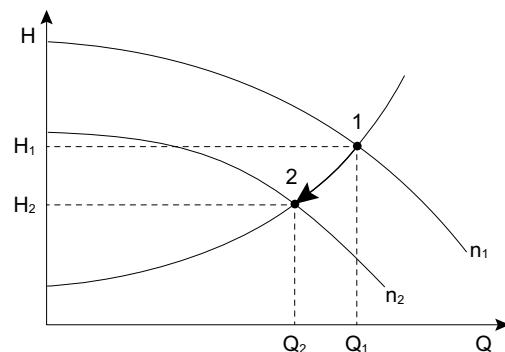

Fig. 7.3.2f Controlling pump speed
The connection between Capacity (Q) and Head (H) when changing the impeller speed is shown in Fig. 7.3.2f.